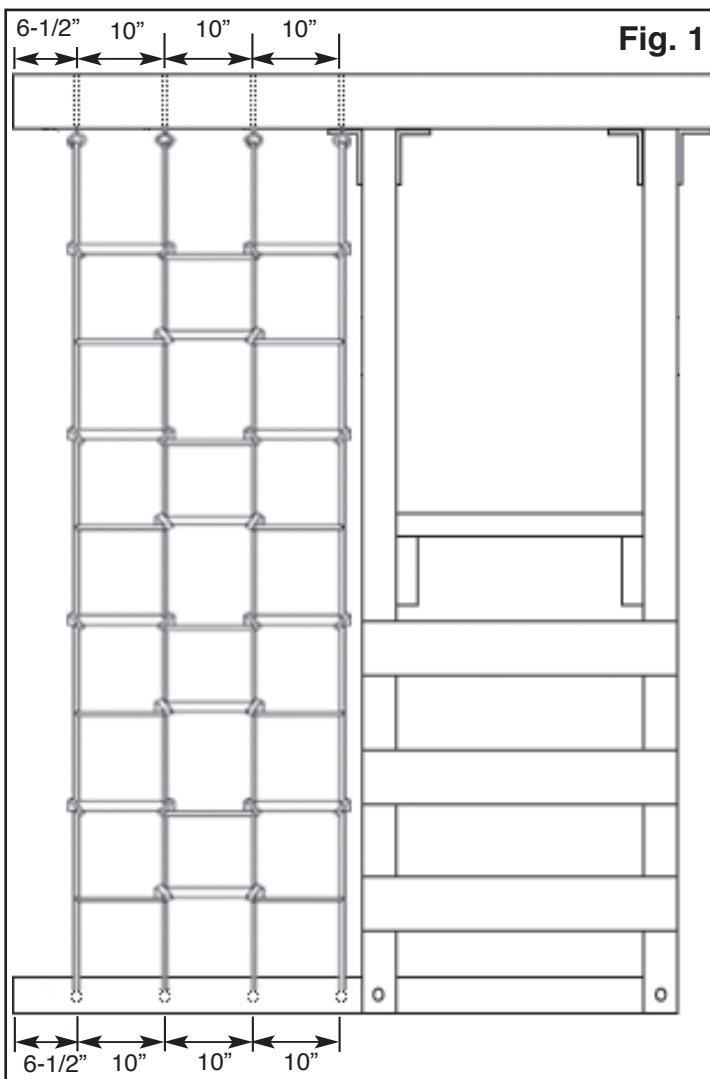

Fig. 1
2. Drill four 5/16" holes in the top of the beam as indicated in Fig. 1. Drill four 3/8" holes in the base as indicated in Fig. 1.